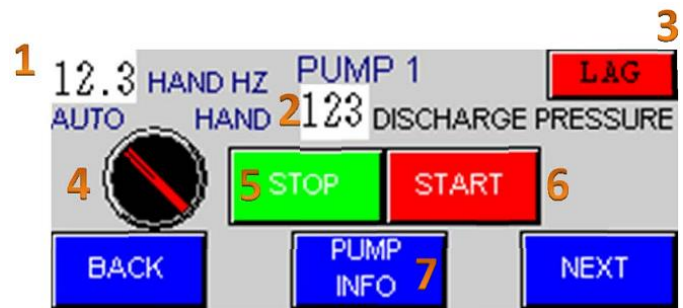

Figure 6. Pump 1 Menu Screen
2. **Pump 1 Status Indicator.** Displays the status of pump 1 (Running, Standby, Stopped or Faulted), Figure 6.
1. **Pump 1 Menu.** Jumps to "Pump 1 Menu", Figure 6.
1. See Figure 6, Pump 1 Menu, for descriptions.